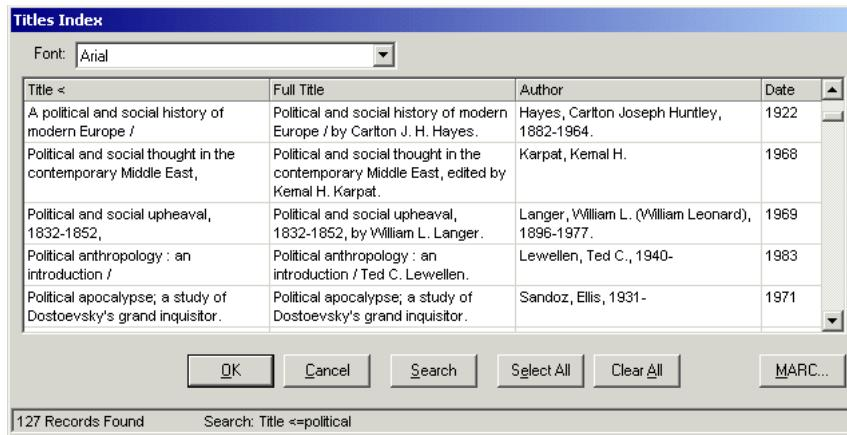

Figure 13-5. Title Index dialog box - MARC button displayed
- The **MARC** button on the **Titles Index** dialog box (Figure 13-5), which displays as a result of any non-Headings search done in Acquisitions. See Titles Index Index Dialog Box on page 2-26 for more information.